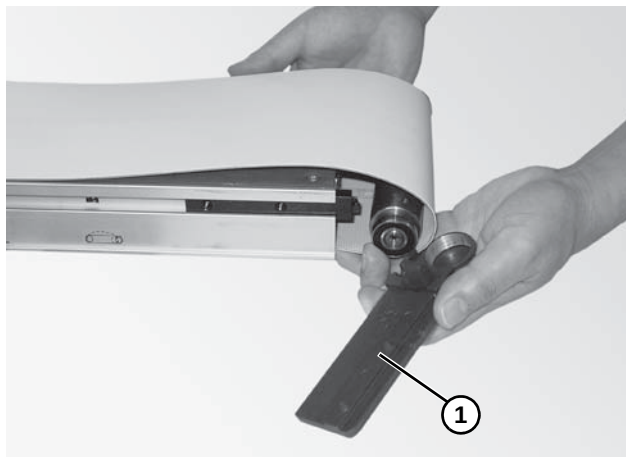

Figure 47
2. Remove the head plate (**Figure 47, item 1**) from the conveyor frame.